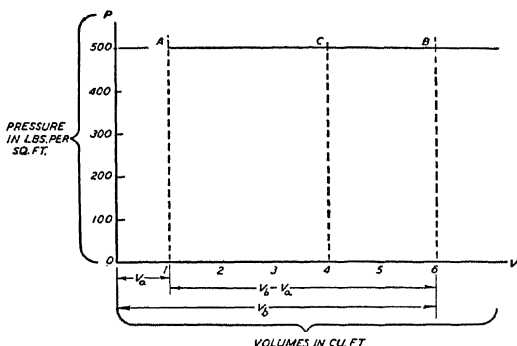

Fig. 13
Pressure=Volume, or PV=Diagram. The co-ordinate axes of mathematics permit one to graphically portray as a point a thermodynamic state of a gas by means of any two characteristics of the gas. The two characteristics often used are the pressure, P and the volume, V . The vertical or Y axis of mathematics is taken as the pressure or P axis and the horizontal, or X axis is taken as the volume, or V axis. Suppose at a given state the pressure of a gas is 500 pounds per square foot and the volume is 1 cubic foot. To show this state on the PV -diagram, Fig. 13, proceed upward on P axis from origin, O to the pressure 500 pounds per square foot. Through this point draw a dotted horizontal line as shown. Next proceed from O to the right on the V axis until the volume 1 cubic foot, is located. Through this point draw a dotted vertical line. The intersection of the two lines at A graphically represents the given thermodynamic state.
From geometry, the area of a rectangle is equal to the product of its two dimensions. In Fig. 13, $A,B,6,1$ is a rectangle whose base dimension is $V_b - V_a$ and whose altitude is P . Therefore its area
For a discussion of the PV -diagram in general, a constant pressure expansion was chosen as given in Fig. 13. Referring to this figure and to formula (44), it is evident that, for this process,
Applying this formula to the expansion shown in Fig. 13, where we have V_1 or $V_a = 1$ cubic foot, V_2 or $V_b = 6$ cubic feet, $P = 500$ pounds per square foot absolute, $J = 778$